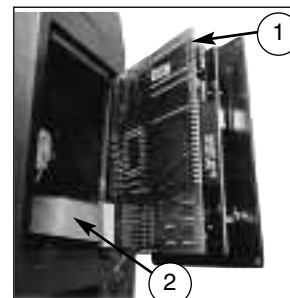

Fig. 4 CDS Printed Circuit Board. (1) CDS PCB; (2) 16-Pin Ribbon Cable
10. Connect the 16-pin ribbon cable (2), Fig. 4, to the CDS PCB (1), Fig. 4.